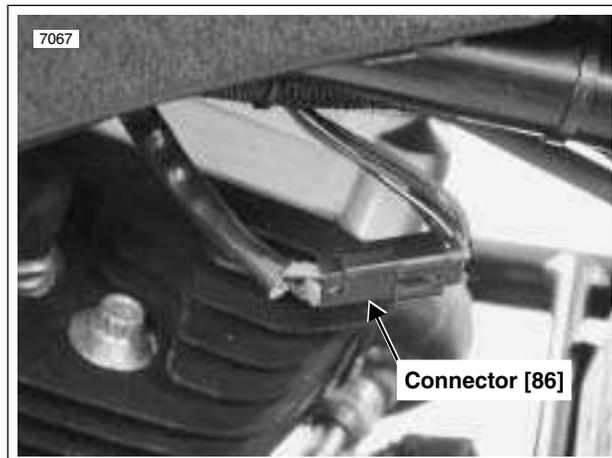

Figure 4-87. Fuel Pump Connector [86]
- a. See Figure 4-87. Disconnect the 4-place fuel pump connector [86]. Connector is on the left side, above the rear cylinder spark plug.